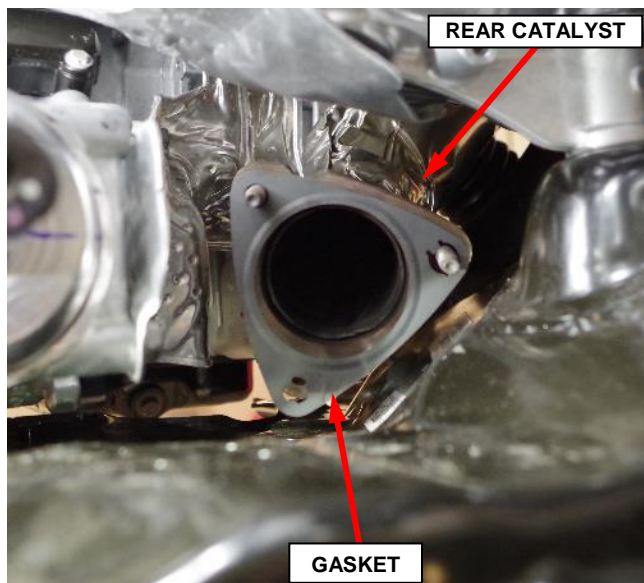

Figure 65 – Y-Pipe to Catalyst Gasket
- m. Remove and **DISCARD** the flange gasket between the Y-pipe to the rear catalyst (Figure 65).